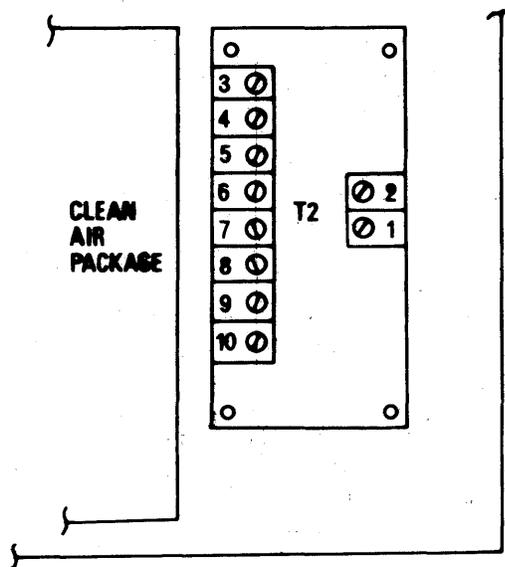

Figure 6-6. International Transformer Mounting
3. Bolt International transformer 1880 2835 to base using 4 screws 1447 0207 and washers 1447 0025 (or equivalents). Refer to figure 6-6.